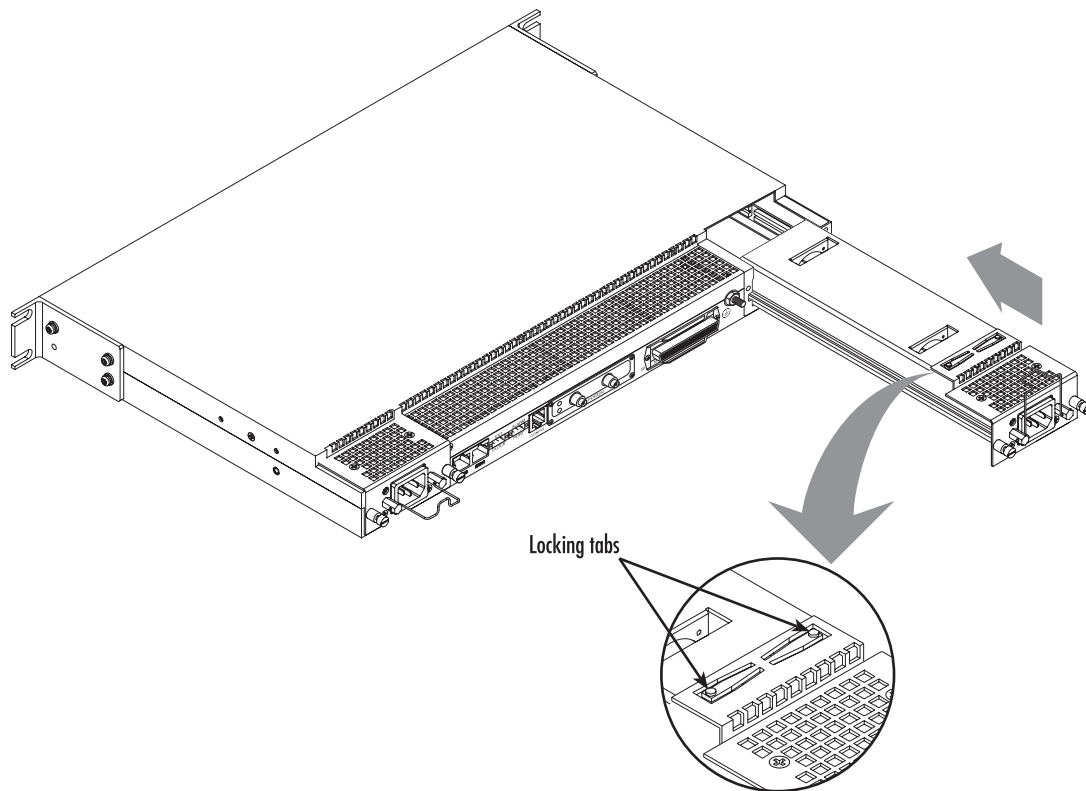

Figure 20. Installing the power supply
- Insert the power supply into the IpDSLAM chassis (as shown in figure 20) until the locking tabs are pressing against the chassis. When that occurs, push down on the locking tabs while pressing the power supply completely into the chassis.